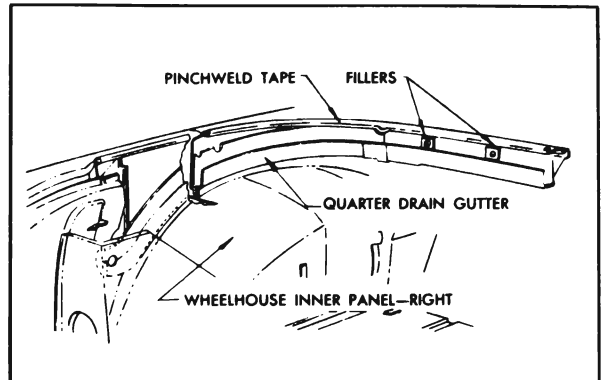

Figure 7-38—Checking Trim Stick Fillers
14. Inspect rubber trim stick fillers cemented to body below pinchweld (see Figure 7-38). Re-cement if necessary.